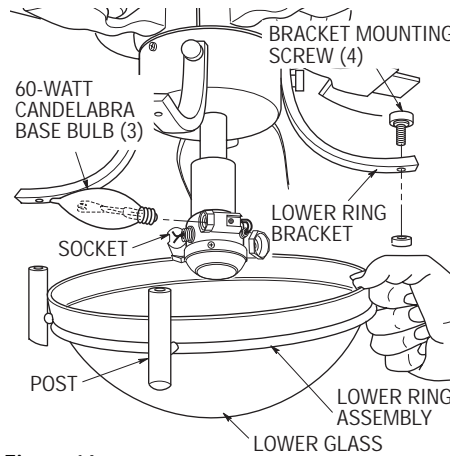

Figure 16
- 7. Screw three 60-watt (maximum) candelabra base bulbs into the light fitter sockets (Figure 16).
- 8. Place the lower glass in the lower ring assembly (Figure 16). Unscrew four bracket mounting screws from the four lower ring posts.
- 9. Securely grasp one of the lower ring posts and raise the lower ring up to one of the lower ring brackets. Secure the lower ring post to the lower ring bracket using a bracket mounting screw (Figure 16). Grasp the opposite post and secure the post to the opposite bracket using a bracket mounting screw.